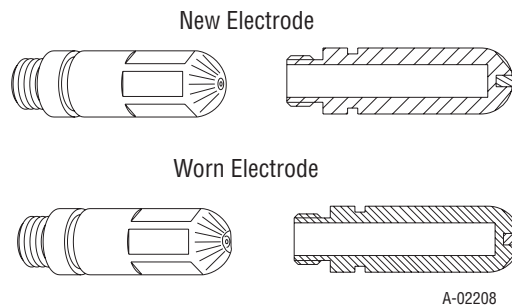

Figure 7-4: Electrode Wear
5. Using the multipurpose wrench (electrode area) remove the electrode. Refer to "Figure 7-4: Electrode Wear" and check the face of the electrode for excessive wear.